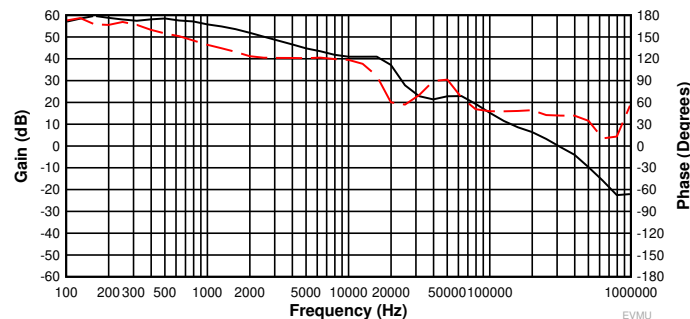

Figure 2-6. TPS54A20EVM-770 Loop Response
Figure 2-6 shows the TPS54A20EVM-770 loop-response characteristics. Gain and phase plots are shown for V_{IN} voltage of 12 V. Load current for the measurement is 5 A.
- Updated Figure 2-6 8